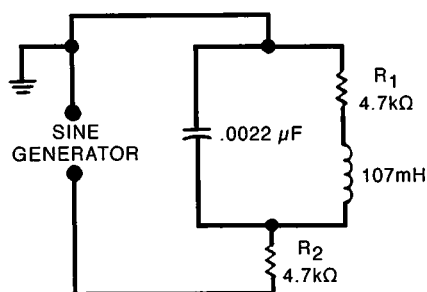

Figure 5-28
5. With the frequency dial at the point you set in step 4, measure the voltage across R_2 and record it in the space provided. $E_{R2} =$ _____. Reconfigure the circuit so it appears like the one in Figure 5-28. To do this, interchange the leads from the generator. Measure the voltage across R_1 and record the value in the space provided. $E_{R1} =$ _____. Which voltage is greater, E_{R1} or E_{R2} ? _____. Since the two resistors have the same value, which has more current flowing through it? _____.